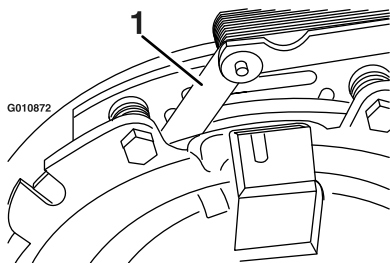
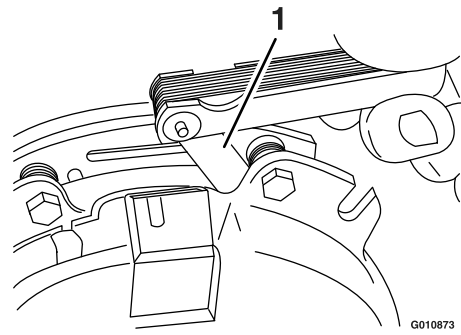

Figure 73
Figure 74
- E. Using a 0.25 mm (0.01 inch) thick feeler gauge, verify that a gap is present between the rotor and the armature face on both sides of the brake pole as shown in Figure 73 and Figure 74.